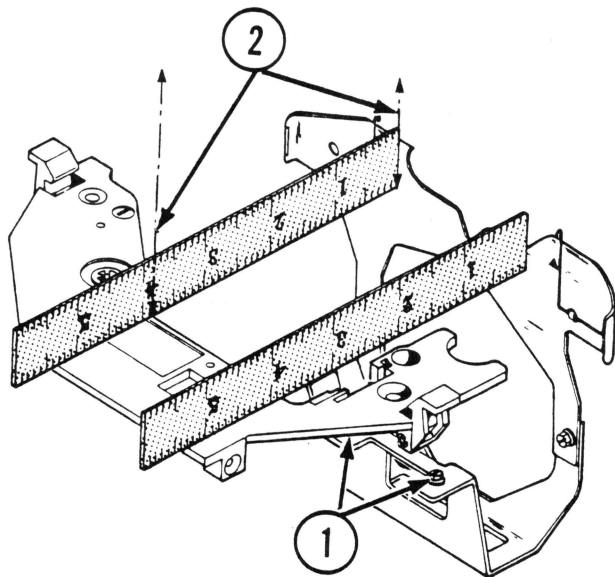

FIGURE 19
6. With flat blade screwdriver, loosen the two front-to-rear mounting screws. (See Figure 19, #1.)
7. To adjust the shield, set a 4 inch distance between the shield and the front of the ribbon support plate (see Figure 19, #2). Then tighten the front-to-rear mounting screws.